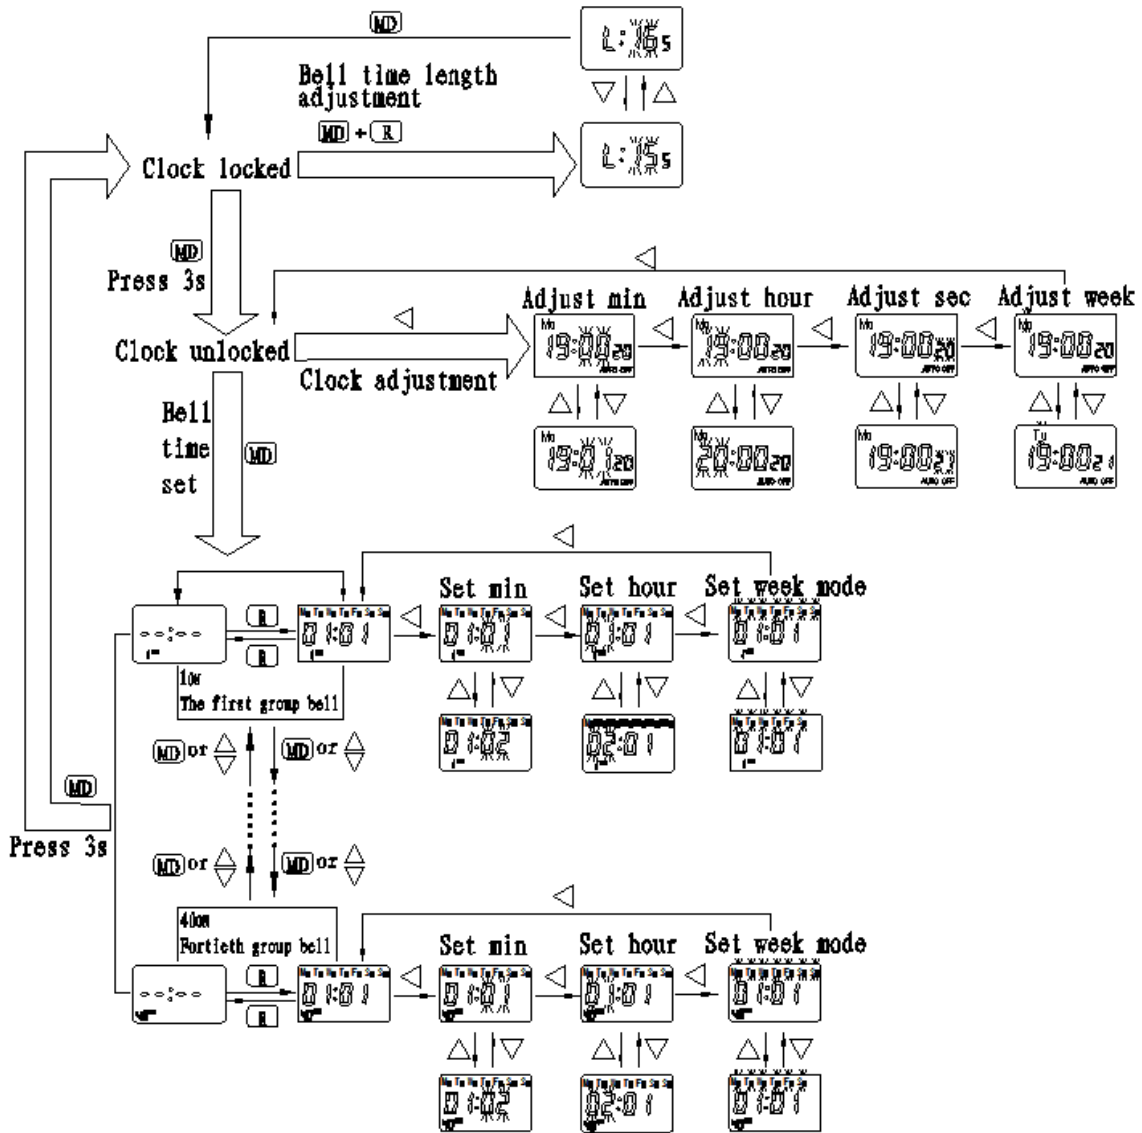

Figure6 NKG-4TIME SWITCH of Belling apparatus Setting process
4.1 Setting process for Time Switch of Belling apparatus parameters (see Figure 6).